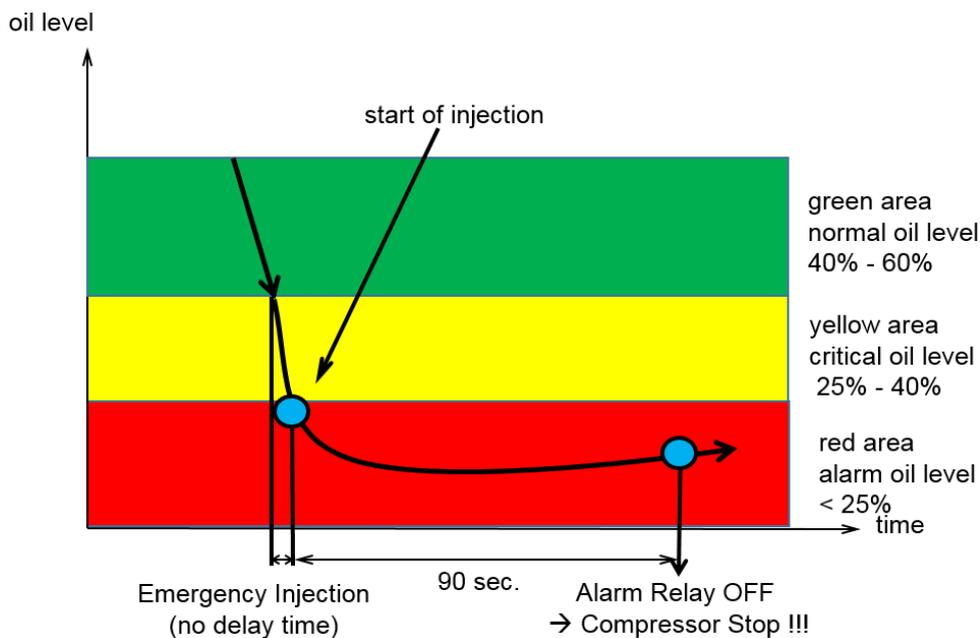

Fig. 3: Logic of filling – Emergency injection
4. Oil Level Controller with screw adapters (not ready for installation) as shown in Fig. 3 to be installed in the following order: